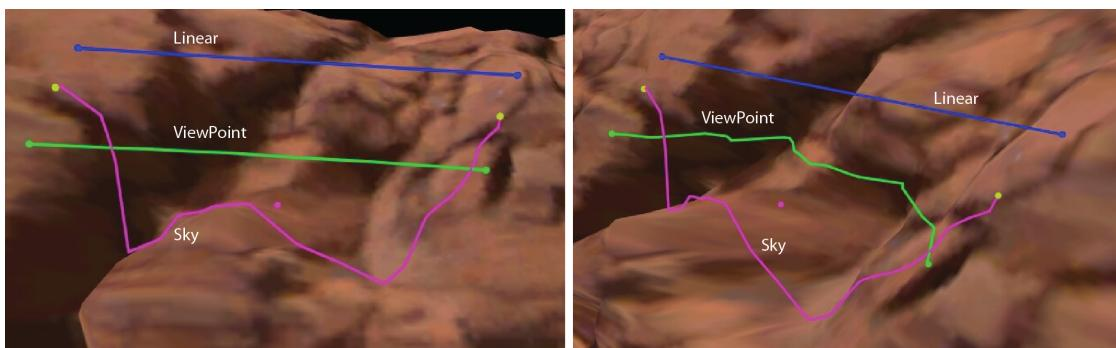

Figure 10: Three Lines taken from the same camera position (left) with the same camera settings but with different line projections.
- *Linear*: produces straight line segments as point-to-point connections with linear interpolation between them, no actual projection is performed (Figure 10, blue line). This is useful for line-of-flight distance measurements or measuring the height of a cliff or determining its slope.
- *ViewPoint*: between two points we sample the space by shooting additional rays to intersect with the surface, in this case along the view direction (Figure 10, green line). This is helpful to measure details in nooks and crannies of a rough surface and is the typical way to go for geological measurements.
- *Sky*: the same sampling happens as for the viewpoint projection but this time the rays are shot along the scene's up-vector (Figure 10, pink line). This mode is useful for geographical measurements to estimate the length of a path through a crater.
- *Projection*: Shows the projection which determines the direction of the picking ray (described in Section 3.3, shown in Figure 10). This is not changeable retrospectively.